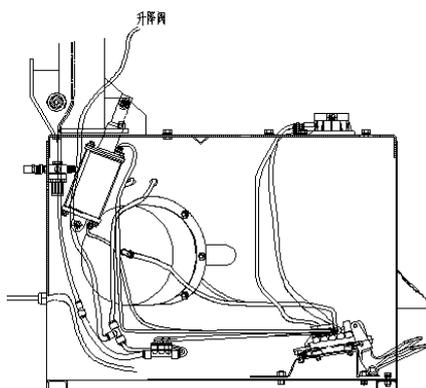

Fig 20
- 3) Connect the air hose to the corresponding T-joint through the rear hole of the body. (Fig 20)